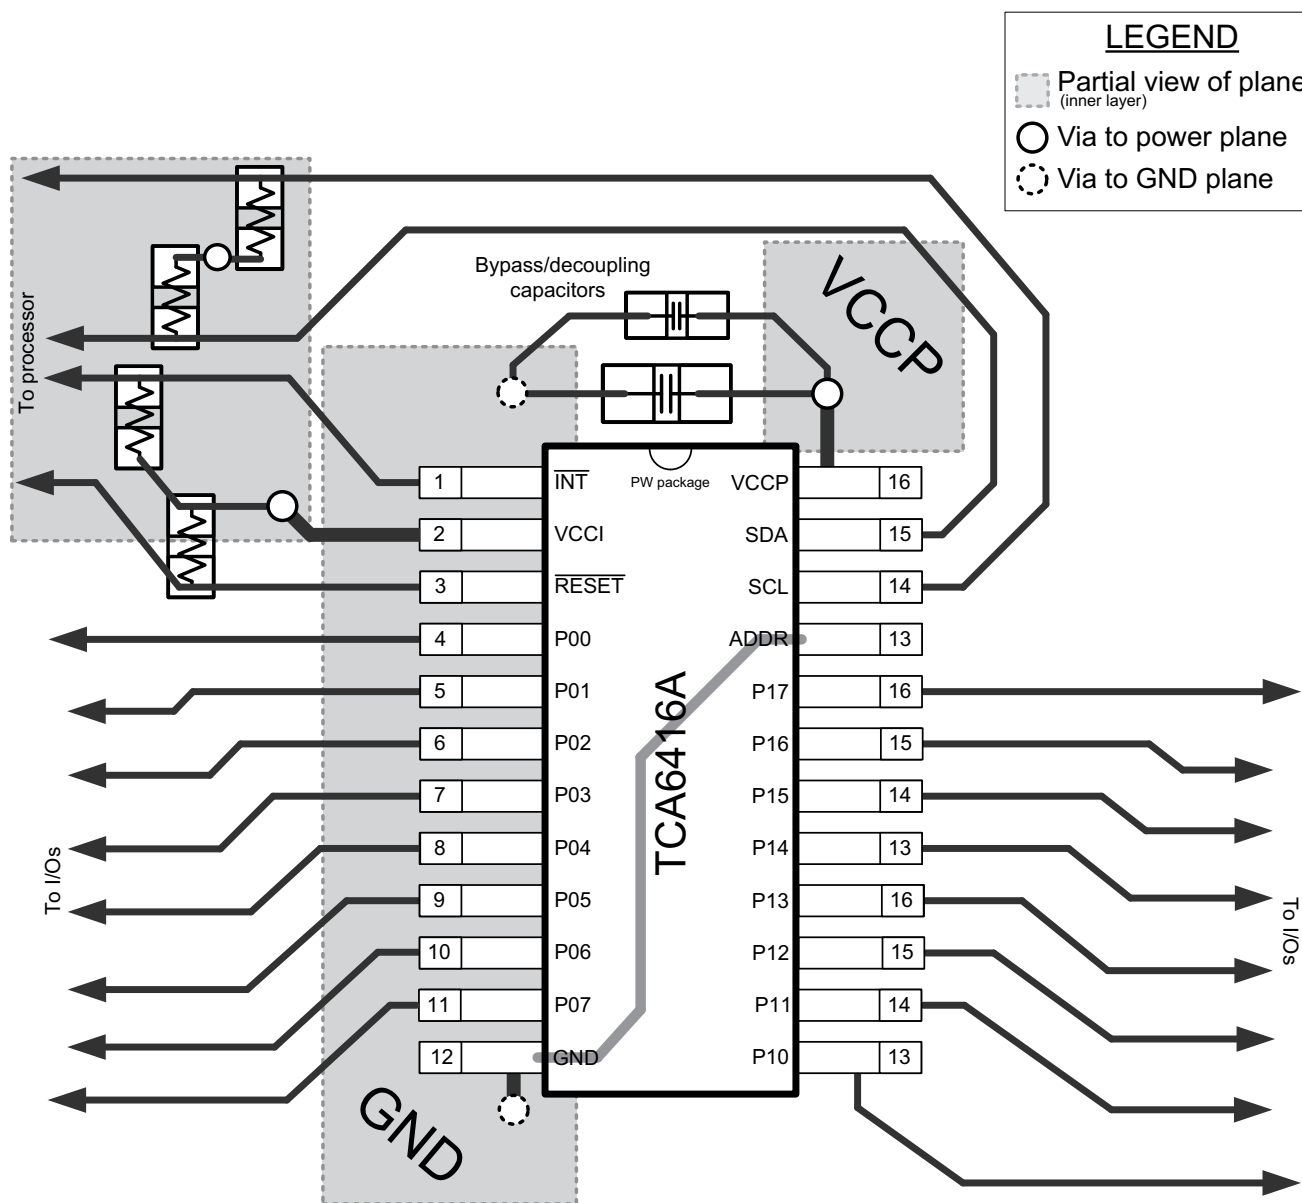

图 11-1. TCA6416A Layout
In all PCB layouts, it is a best practice to avoid right angles in signal traces, to fan out signal traces away from each other upon leaving the vicinity of an integrated circuit (IC), and to use thicker trace widths to carry higher amounts of current that commonly pass through power and ground traces. By-pass and de-coupling capacitors are commonly used to control the voltage on the VCCP pin, using a larger capacitor to provide additional power in the event of a short power supply glitch and a smaller capacitor to filter out high-frequency ripple. These capacitors should be placed as close to the TCA6416A as possible. These best practices are shown in 图 11-1.
For the layout example provided in 图 11-1, it would be possible to fabricate a PCB with only 2 layers by using the top layer for signal routing and the bottom layer as a split plane for power (V_{CCI} and V_{CCP}) and ground (GND). However, a 4 layer board is preferable for boards with higher density signal routing. On a 4 layer PCB, it is common to route signals on the top and bottom layer, dedicate one internal layer to a ground plane, and dedicate the other internal layer to a power plane. In a board layout using planes or split planes for power and ground, vias are placed directly next to the surface mount component pad which needs to attach to V_{CCI}, V_{CCP}, or GND and the via is connected electrically to the internal layer or the other side of the board. Vias are also used when a signal trace needs to be routed to the opposite side of the board, but this technique is not demonstrated in 图 11-1.